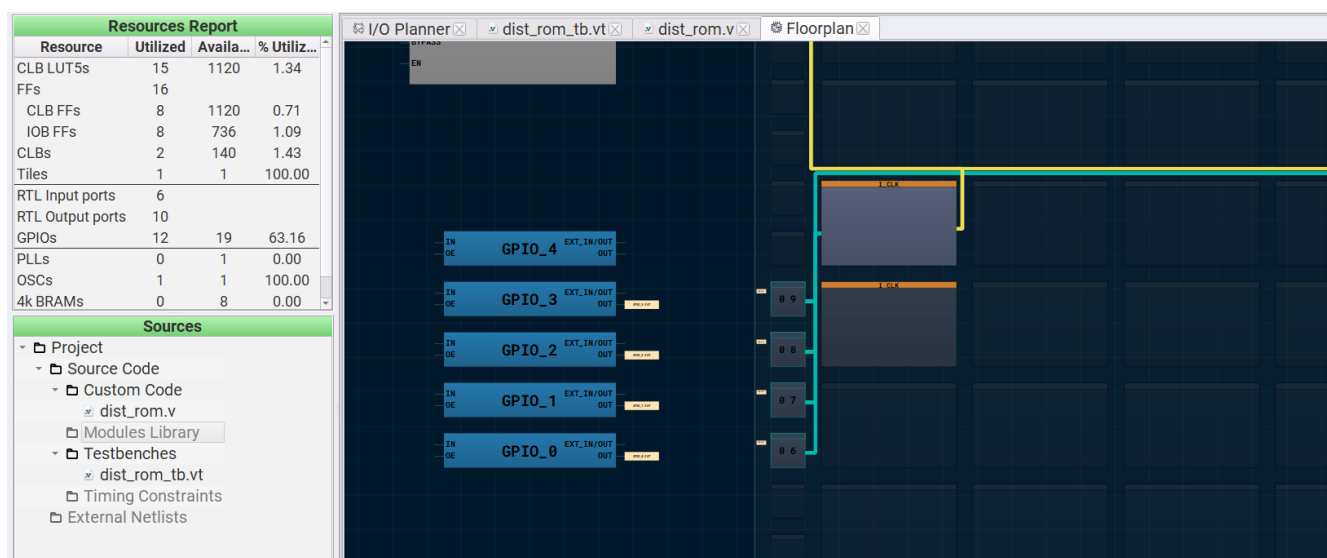

Figure 3: Distributed ROM CLB Utilization
The Floor planner tab in the FPGA Editor shows the placement of CLBs and FFs (Figure 3). The resource utilization is shown in the top left corner.
The Logic Analyzer in the FPGA Editor shows the ROM read out (Figure 3). We can set the GPIO0, GPIO1, GPIO2 as ROM read address, and use Synchronous Logic generator, to make sure the address input comes from 0~7, and GPIO3 as read enable, also use Synchronous Logic generator, to make sure when we set address from 0~7, we can see the read enable asserted, in the Logic Analyzer we can set the GPIO5, GPIO6, GPIO7, GPIO8, GPIO9, GPIO10, GPIO11, GPIO12 as the ROM data output to be a parallel bus, so that we can see the read out data in Logic Analyzer.
8. Now click on the Floorplan tab and see the CLB utilization (Figure 3). Press the Ctrl and the mouse wheel to zoom-in. Confirm that the IOs selected in the IO Planner are shown in the floorplan.